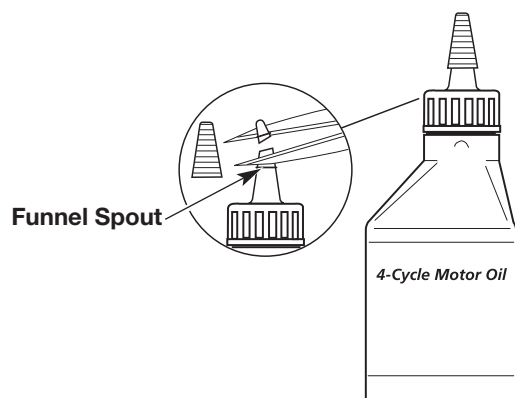

Fig. 15
Your unit is supplied with one 3.0 fl oz (90 ml.) bottle of SAE 30 SF, SG, SH oil (Fig. 15).
1. Unscrew the top of the bottle of oil and remove the paper seal covering the opening. Replace the top. Next, cut the tip off the funnel spout (Fig. 15).